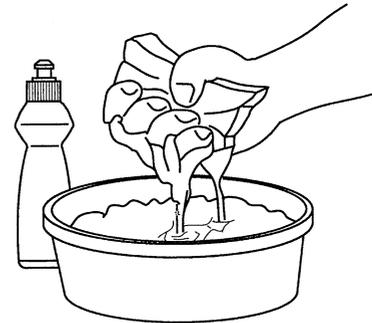

Figure 16
4. Wash air filter in laundry detergent or kerosene (Fig. 16).